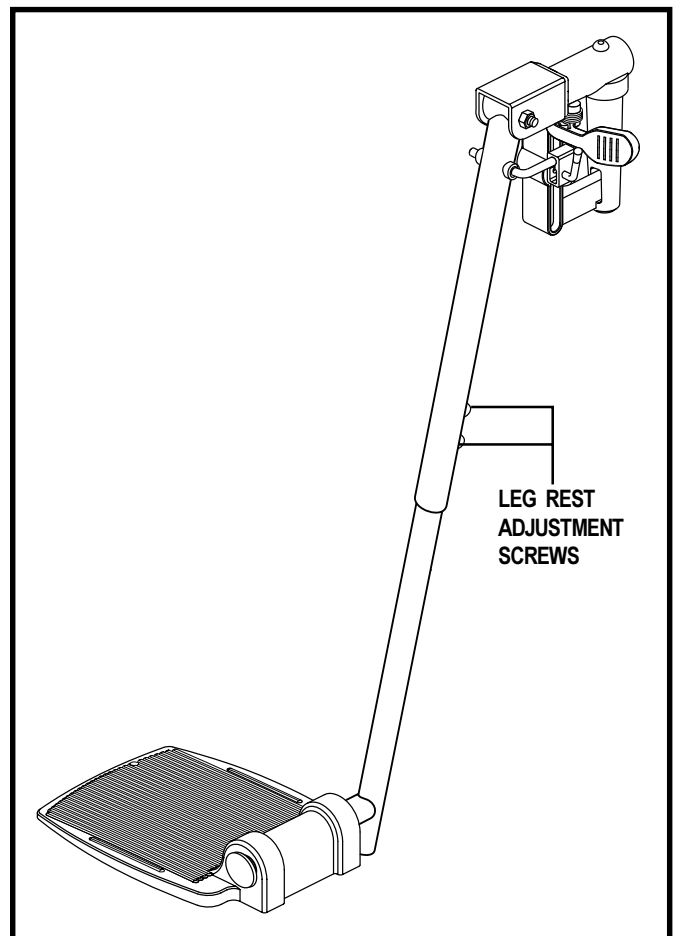

Figure 22. Elevating Leg Rests (Swing-away is similar.)
1. Remove the two screws from the side of each leg rest extension. See figure 22.